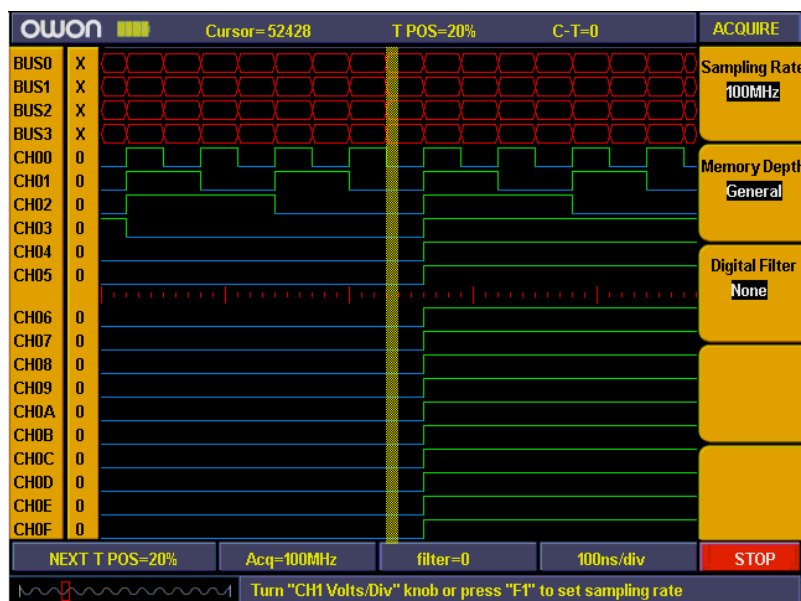

Fig 61: Sampling setting
- Then sample system setting finished (refer to fig 61).